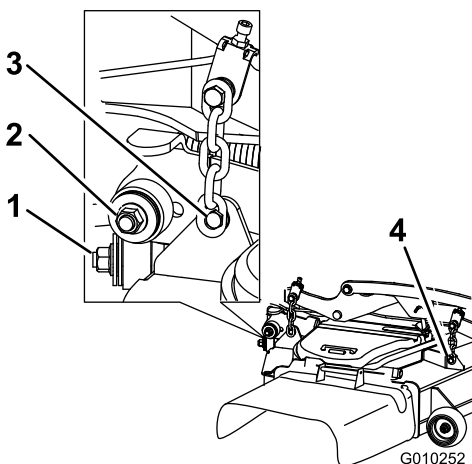

Figure 98
7. Remove and retain the hardware on both sides of the deck as shown in Figure 98.